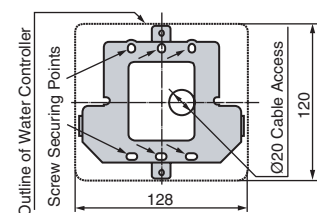

Fig.1
2. Use the wall mounting bracket as a template to mark and drill 3 holes, locating the cable access hole as shown in Fig. 1.